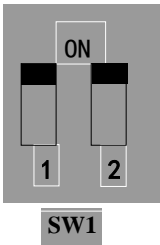

Fig 5-4
(5) There is a red two-digit coding switch SW1 near the control terminal block of 18.5 kW inverter and below 18.5 kW, as shown in Figure 5-4. The function of coding switch is to select the voltage signal (0~5V/0~10V) or current signal of analog input terminal AI2, current channel is default. In actual application, select the analog input channel through F203. Turn switches 1 to ON and 2 to ON as illustrated in the figure, and select 0~20mA current speed control. Another switches states and mode of control speed are as table 5-2.